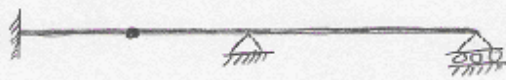
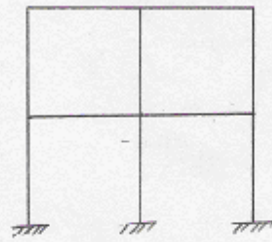

Fig. 1 (Q.1.A.1)
Fig. 2 (Q.1.A.1)
- Q 1** (a) 1. Find static indeterminacy and kinematic indeterminacy of structures given in **Fig.1** and **Fig.2** **04**